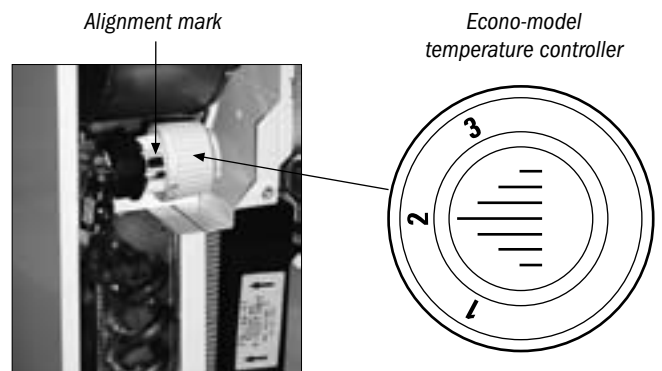

Figure 2.
2. Adjust reheating by measuring the temperature from the furthest supply valve when it is very cold outside. The recommended reheating adjustment is approx. 17 °C. In the electrical reheating system, reheating is adjusted via the control panel, and in the Econo model via the manual controller inside the unit (see Figure 2).